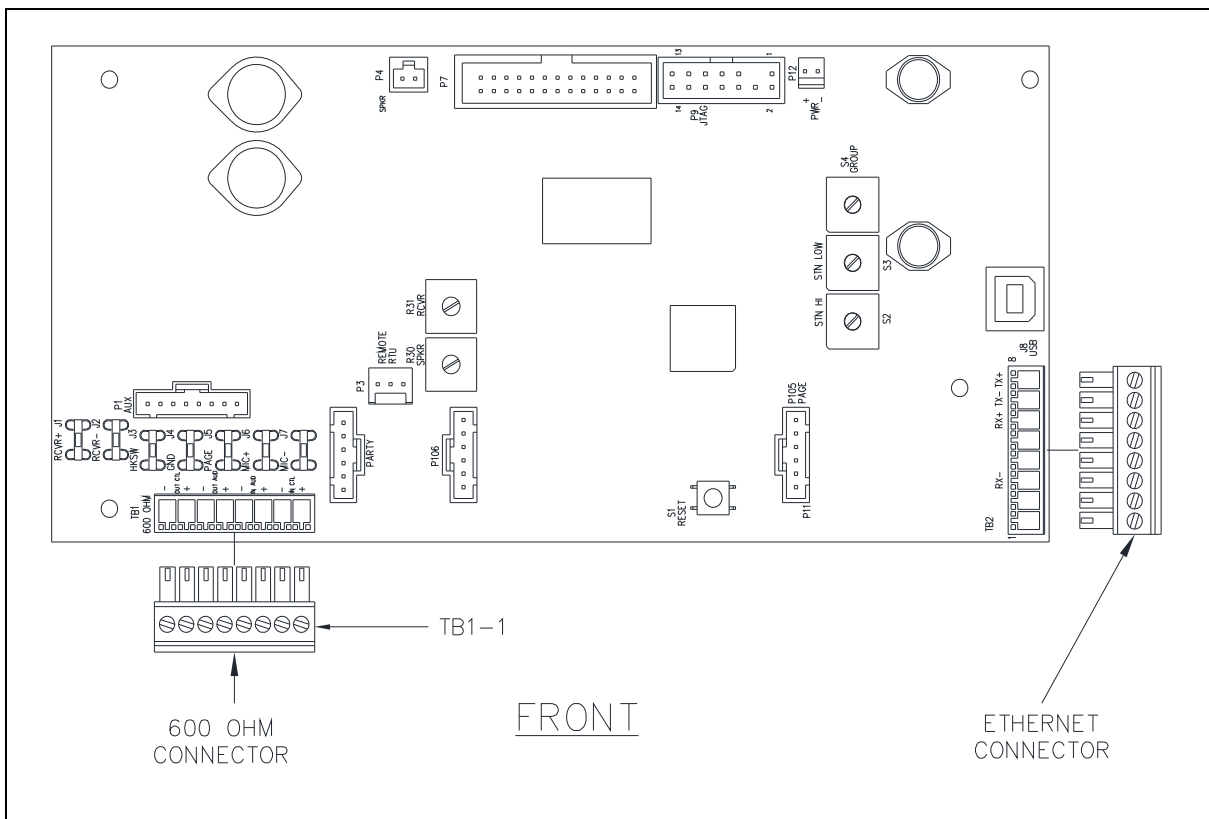

Figure 10. SP2 Main PCBA (Ethernet)
3. Connect the 600-ohm audio wires to the pluggable terminal block for the 600-ohm audio I/O connection (see Table 6 and Figure 10).
3. Connect the Ethernet cable to the 8-position pluggable terminal block (see Figure 10).
4. Connect the pluggable terminal block to the main PCBA terminal block TB2 (see Figure 10).